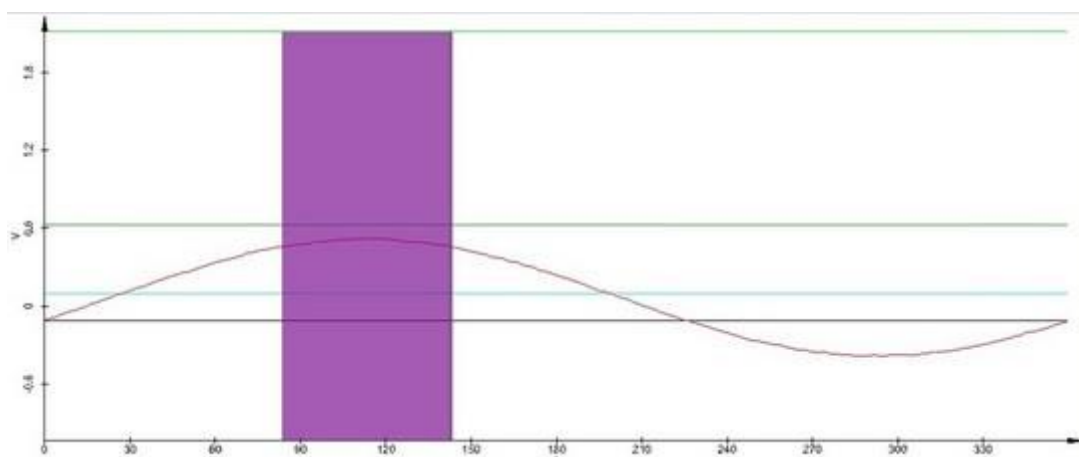
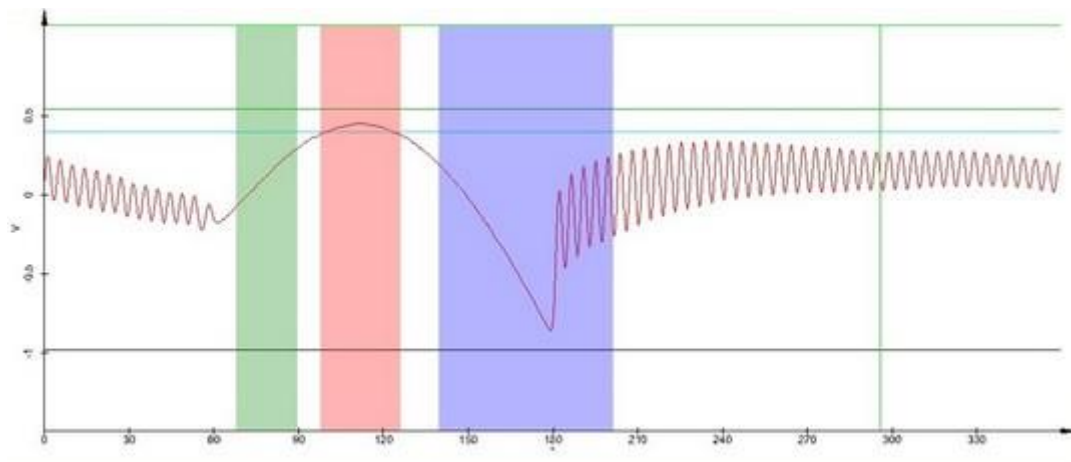

Fig. 1: Sinusoidal curve with Fmax search window
Fig. 2: Pulsed force curve with Fmax (red), Adhesion (blue) and Stiffness (green) search window
After the approach the graph window will either show a sinusoidal curve as shown in Fig. 1 or a pulsed force curve similar to the one in Fig. 2. In the first case, the modulation of the cantilever is too small to completely detach the cantilever from the sample, refer to step 8.
6. Change the **Excitation Phase** parameter of the PFM Control until the maximum force is in the first half of the oscilloscope graph window (as shown in Fig. 1).
7. Select the Fmax window as shown in Fig. 1 using the corresponding **Listen** parameter from the PFM Control mark the range by mouse.
8. Increase the **Driving Amplitude pk-pk [V]** until a pulsed force curve is displayed in the graph window as shown in Fig. 2.
9. Select the search windows for adhesion and stiffness as shown in Fig. 2 using the